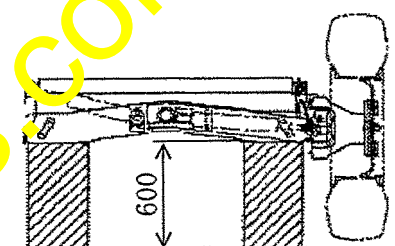

Fig. 2
- 6) Contract the blade lift cylinder little by little for the front axle to sit on the blocks. (Refer to Fig. 2.)